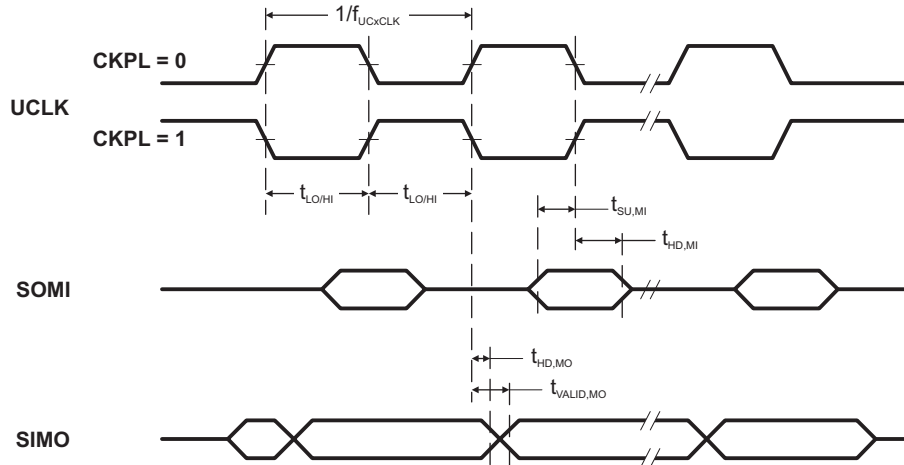
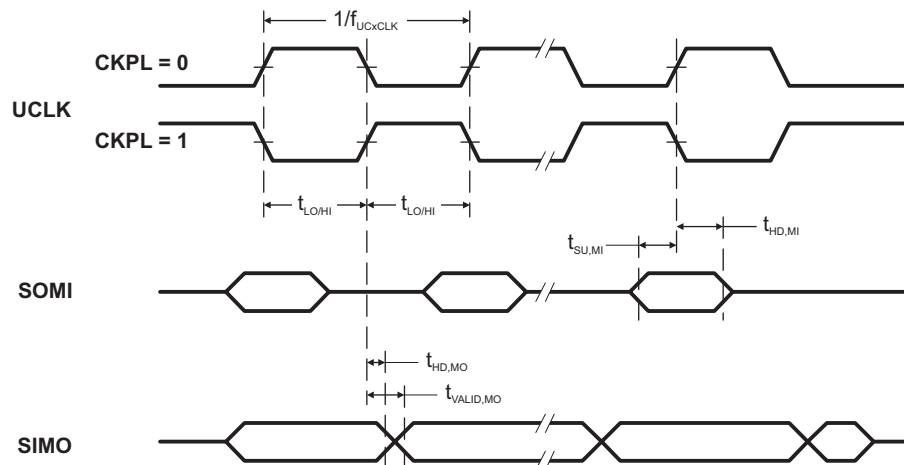

Figure 5-11. SPI Master Mode, CKPH = 0
Figure 5-12. SPI Master Mode, CKPH = 1
(see Note (1), Figure 5-11 and Figure 5-12)
- (1) fUCxCLK = 1/2tLO/HI with tLO/HI ≥ max(tVALID,MO(USCI) + tSU,SI(Slave), tSU,MI(USCI) + tVALID,SO(Slave)).
- (2) Specifies the time to drive the next valid data to the SIMO output after the output changing UCLK clock edge. See the timing diagrams in Figure 5-11 and Figure 5-12.
- (3) Specifies how long data on the SIMO output is valid after the output changing UCLK clock edge. Negative values indicate that the data on the SIMO output can become invalid before the output changing clock edge observed on UCLK. See the timing diagrams in Figure 5-11 and Figure 5-12.
- (2) Specifies the time to drive the next valid data to the SOMI output after the output changing UCLK clock edge. See the timing diagrams in Figure 5-11 and Figure 5-12.
- (3) Specifies how long data on the SOMI output is valid after the output changing UCLK clock edge. See the timing diagrams in Figure 5-11 and Figure 5-12.